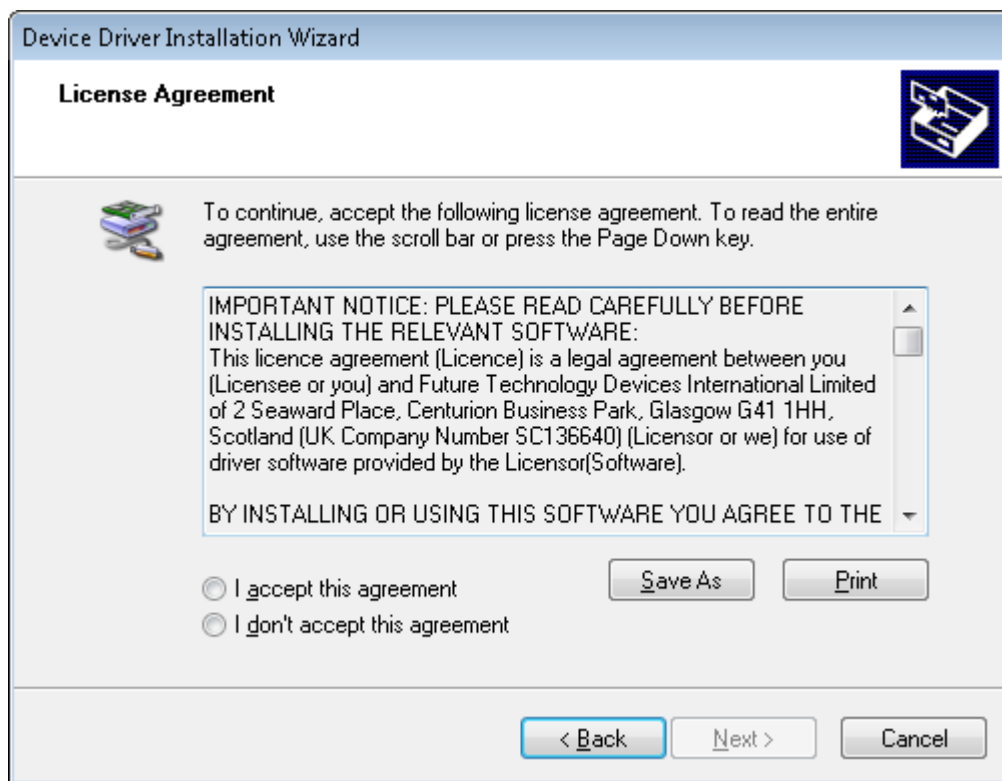

Figure 17. License Agreement for FTDI Driver
16. The License Agreement appears on screen as shown in Figure 17.